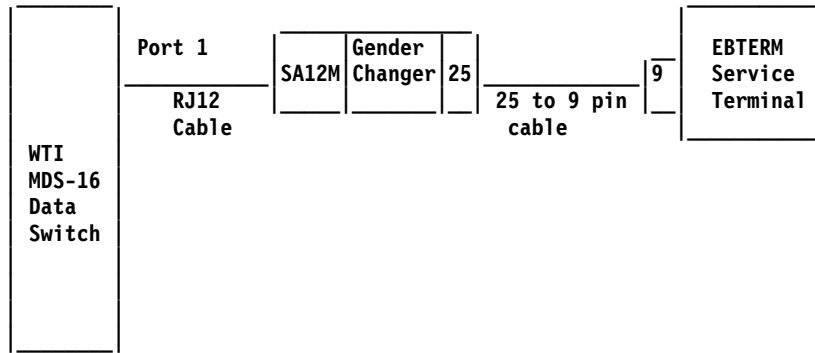

Figure 122. Local Setup and Test of MDS Switch
- b. Connect this RJ12 cable to a spare SA12 connector with a gender changer to the end of the Service Terminal 9 to 25 pin cable (see Figure 122 on page 371).